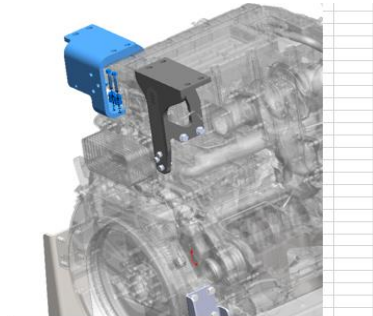

Figure 4
4. Assemble the ATD mount bracket (2) on the instake flywheel side and to the support bracket (3) using M10X40 (13), spacers (20) and M8X50 (11) bolts as shown in the figure 4.